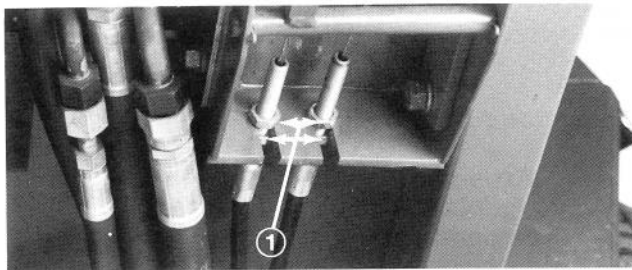

Figure 56
1. To reduce free travel of turn pedals — tighten the brakes — loosen front nut on threaded end of brake cable (Fig. 56). Then tighten rear nut to move cable backward until turn pedals have 1/2 to 1 inch (13 to 25 mm) of free travel. Tighten front nut after brakes are adjusted correctly.